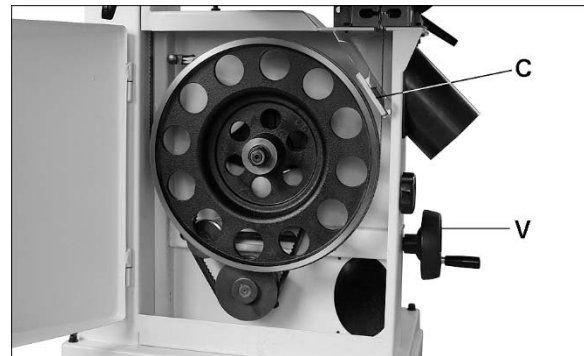

Figure 7-4
6. Remove dust block (C, Figure 7-4).
Check tension by pushing with moderate pressure on belt halfway between pulleys. An adequately tensioned belt will deflect about 1/2-inch. Rotate handwheel (V, Figure 7-4) as needed for proper tension.